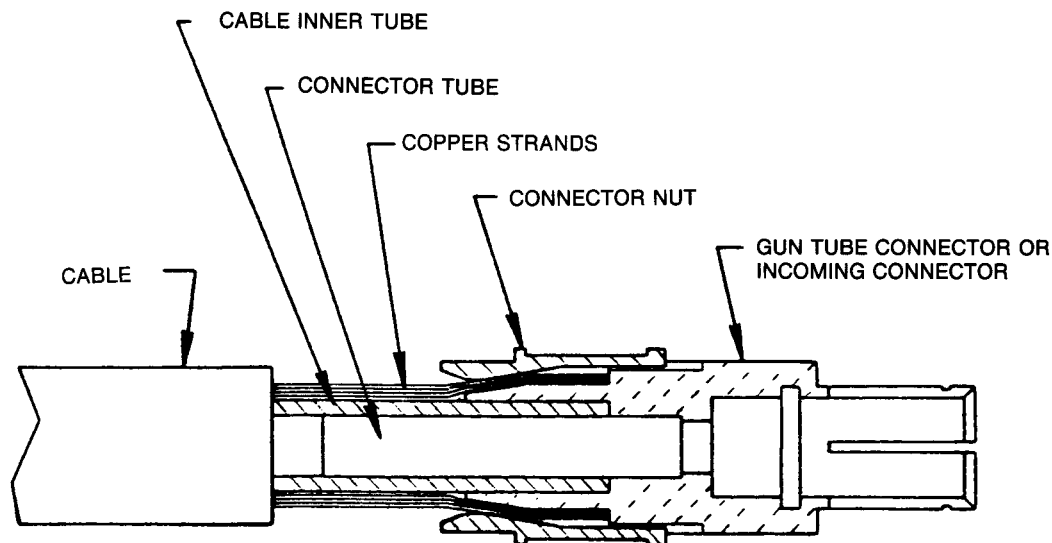

Figure 3
Assemble gun tube connector to cable by forcing the steel tube of the connector into the inside diameter of the cable inner tube until the copper strands are butted against the gun tube connector shoulder. Keeping the copper strands against the shoulder, pull the connector nut over the copper strands, engage the gun tube connector threads, and tighten in place. Refer to Figure 3.
- f. Check that the cable boot and cable handle are on the cable. Slip the connector nut over the copper strands with the threaded end out. Assemble incoming connector to cable by forcing the steel tube of the connector into the inside diameter of the cable inner tube until the copper strands are butted against the incoming connector shoulder. Keeping the copper strands against the shoulder, pull the connector nut over the copper strands, engage the incoming connector threads, and tighten in place. Refer to Figure 3.
- h) Check that the cable boot, boot nut, cable handle, strain relief housing and collar nut are on the cable. Slip the connector nut over the copper strands with the threaded end out. Orient the connector assembly so the red and white control leads will have the straightest possible routings to the sockets on the back side of the connector. Assemble the incoming connector to the cable by forcing the steel tube of the connector into the inside diameter of the cable inner tube until the copper strands are butted against the incoming connector shoulder. Keeping the copper strands against the shoulder, pull the connector nut over the copper strands, engage the incoming connector threads, and tighten in place. Refer to Figure 3.